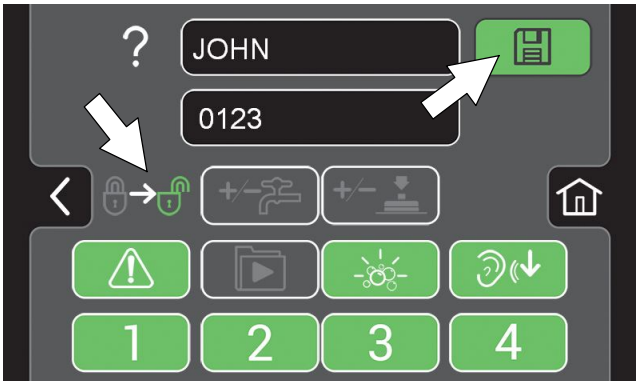

FIG. 156
6. Select the controls the new user should only have access to use (Figure 156). Green represents unlocked controls and gray represents locked controls. Press the flashing save button to save new profile.